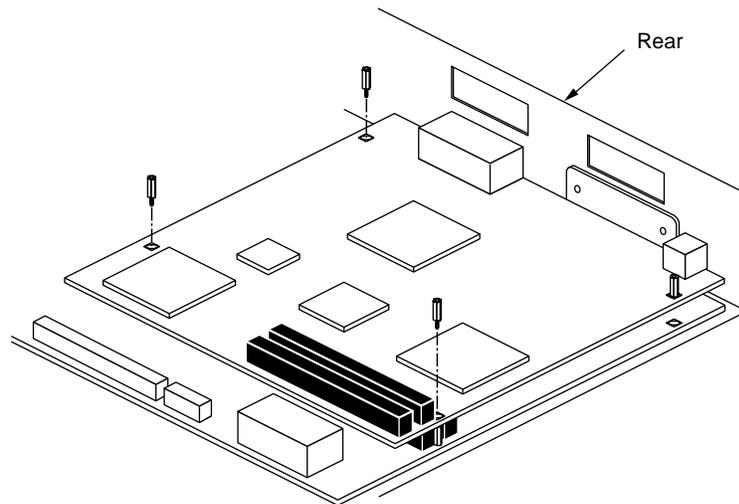

Figure 1-34 Inserting the Standoff Screws on the Z Board
6. Secure the Z board with three standoff screws, in the locations shown in Figure 1-34.